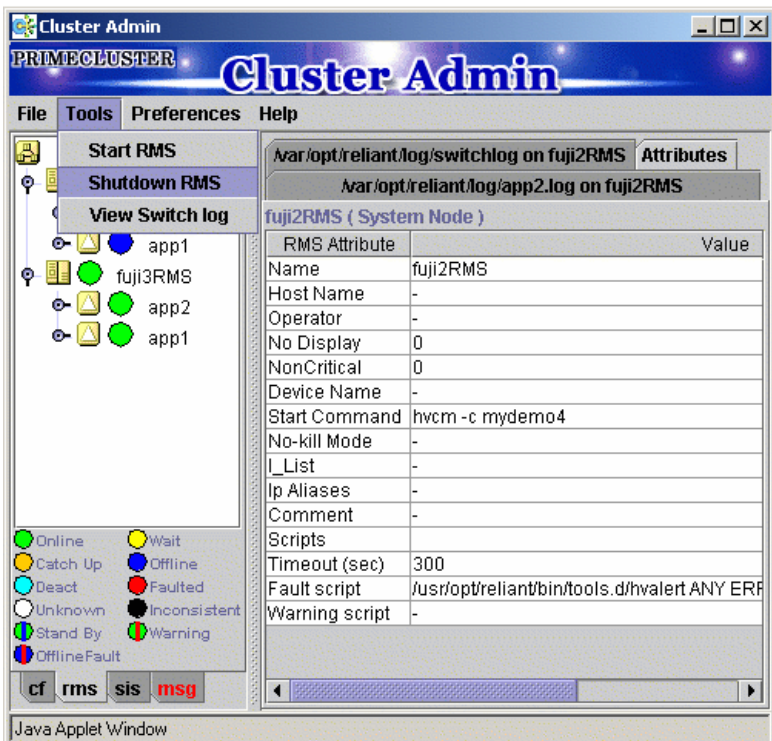

Figure 84: Stopping RMS
1. Use the *Tools* pull-down menu, or right-click on a system node, and select the mode of shutdown in the subsequent option screen (see Figure 84).